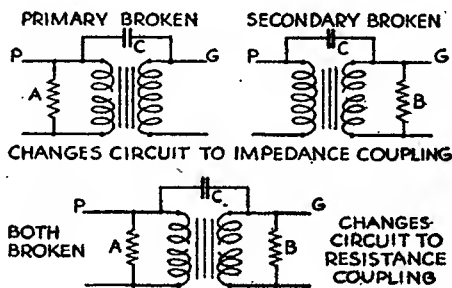

FIG. 62
*A Simple Transformer Repair:* If one or both windings of an audio transformer have gone bad, a temporary repair can be made by following the connections indicated in Fig. 62. If on test (see Chapter IV), the primary circuit proves to be open, connect a 100,000-ohm resistor (A) across the P and B terminals of the primary winding and a fixed condenser (C) across the P and G terminals. The fixed condenser should have a capacity of from .006 to .01 microfarads. Try several and retain the one that gives the best results.